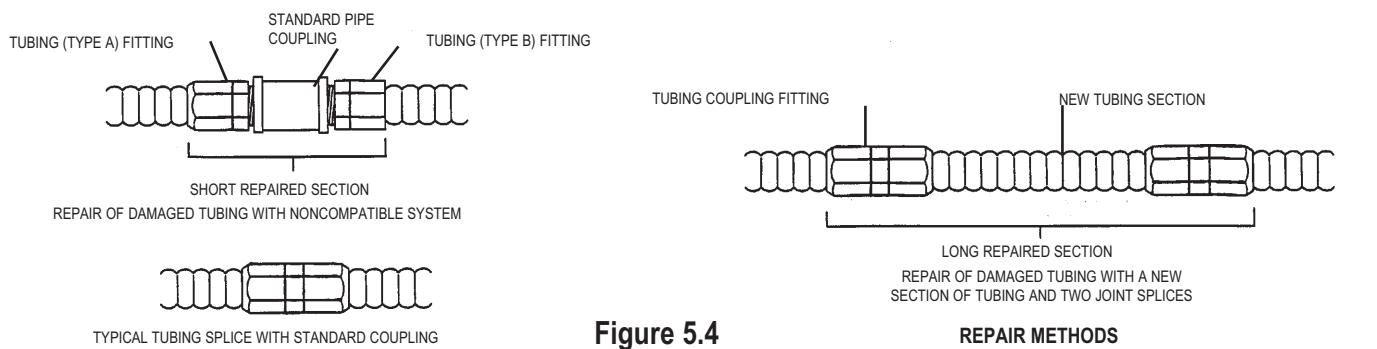

Figure 5.4
**Method 2:** Remove the section of tubing which is damaged and repair/replace as illustrated in figure 5.4.